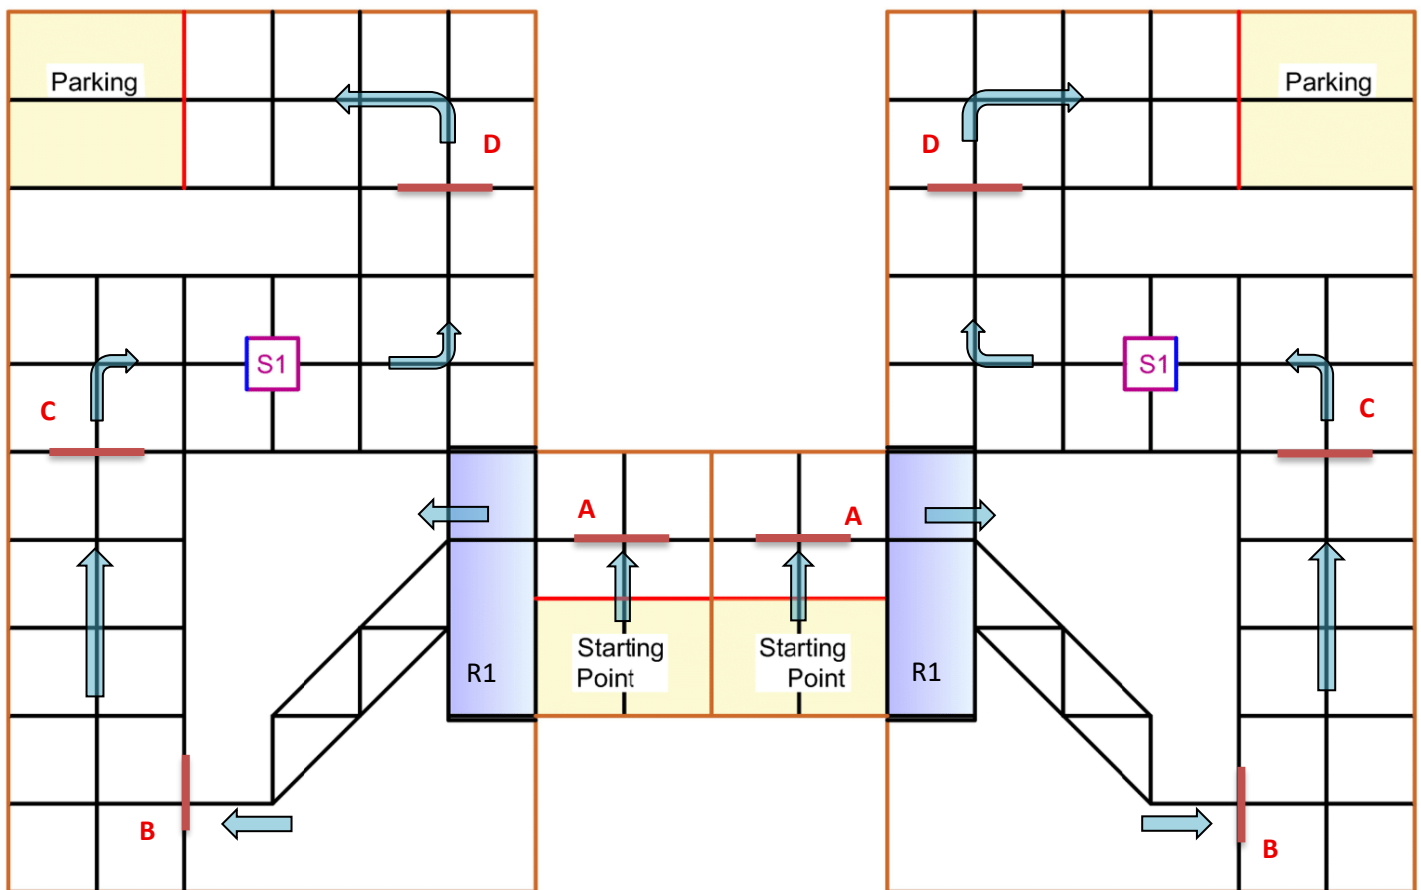

Figure 1: Contest Arena top view
NERC 2026 theme focuses on automation in modern warehouse logistics. In this theme, teams are required to build a modular robot capable of transporting and placing pallets within a warehouse environment. The robot must carry a total of 1 preloaded pallet (represented by dominos, See Annex A for reference photos) and accurately deposit them into a defined storage racks located across the arena. The first team to successfully place the pallet in its designated rack slots and reach the parking area will be declared the winner. The Contest Arena, representing a complete warehouse setup and the pallet placement location, is shown in Figure 1. Details are as follows:
1. Laminated wooden sheets (lasani) are used for the construction of the arena. The floor of arena will be of white color as shown in the map (Fig. 1). All the boundary walls and separation walls have a height of 5 inches throughout the arena. The solid line made with black tape of 3cm width (Dotted Line in Fig 1) present on the floor of arena can be used for line tracking. The entire arena is divided into 12x12 inch grids, unless otherwise specified.
2. A single storage unit, S1, is placed inside the arena as shown in Figure 1. The designated opening side of S1 is indicated by a blue line in the arena layout. The remaining visible portion of the storage box is shown in purple.
4. The ramp region (R1), shown with gradient fill in Fig. 1, represents the inclined surface
5. The ramp and ramp-parking regions include extended features as shown in Fig. 1:
7. The starting position and orientation of the robots are fixed. The robot must be placed behind the starting line shown in Fig. 1 with red color. The complete robot should be behind the line. The red colored line is only for reference in Fig. 1, it will be a solid black colored line on actual arena.
8. At the start of the match, the robot will be positioned at the starting point as shown on Fig.1, carrying one preloaded parcel.
9. After the start signal, the robot must move forward, cross the checkpoint A and descend the ramp labelled R1 in Fig 1, followed by navigating the arena.
17. A successful “reach” means all parts of the robot have crossed the parking entrance line, and no part remains on or above the line. (The line shown in red in Fig. 1 is for reference only and will be a solid black line on the actual arena.)
23. Blue arrows, red checkpoints, red starting line, and red ending/parking lines shown in Fig. 1 are for reference only. These markings will not be present on the actual arena. On the physical arena, starting and parking lines will be solid black.
* Crossing means that any tire of the robot must have crossed the red marker line at the checkpoints mentioned, as shown in Fig. 1.